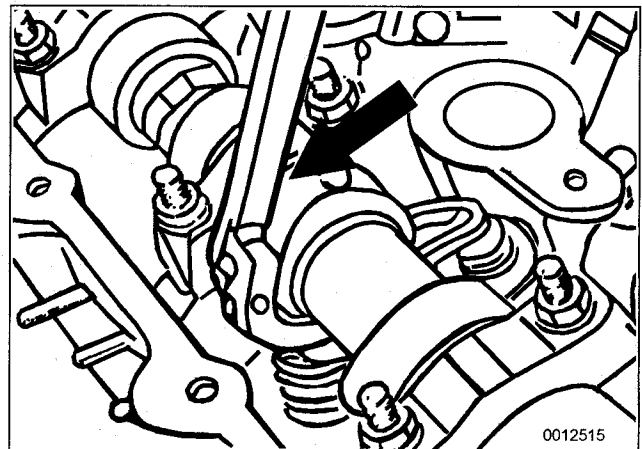

Fig. 12. BMW special tool no. 11 5 130 (arrow) being used to depress valve stem to remove rocker arm.
4. To remove an HVA, turn engine over until camshaft lobe points straight up. Using BMW special tool no. 11 5 130, depress valve spring and remove rocker arm from under camshaft. See Fig. 12.